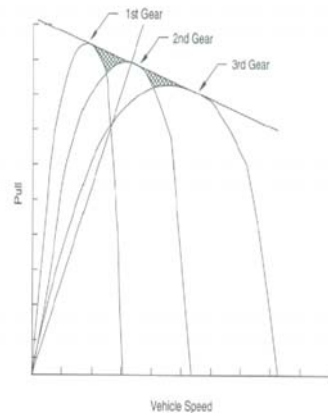

FIGURE 6.5 Additional gear shifts produce an actual power output curve that closely approximates the potential power output curve.
- In the presence of enough gears, the power holes can be minimized, and the actual o/p power will closely approximate the potential o/p power line. (Refer Fig 6.5)